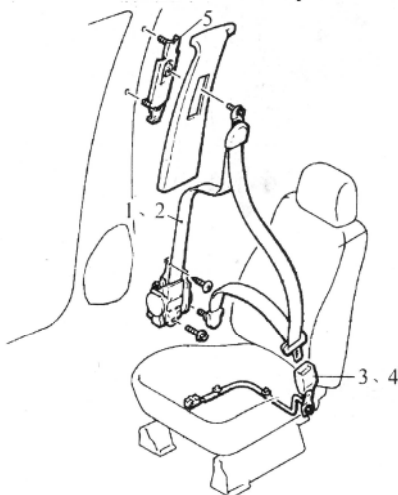

Fig.18-28
- 1) Front safety belt asm (see figure18-28)